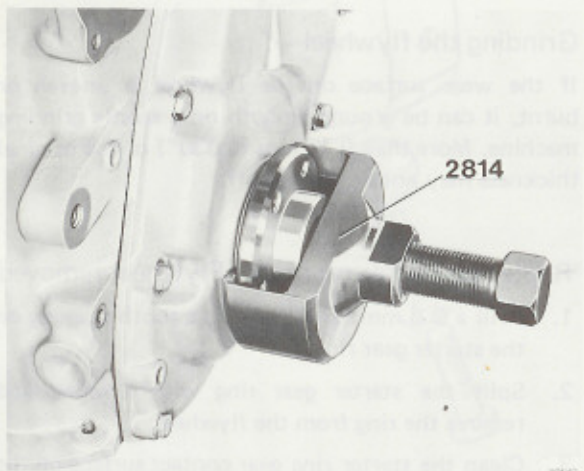

Fig. 21-50. Removing the polygon hub
4. Screw out the centre bolt and pull off the polygon hub with puller 2814, Fig. 21-50. (But first try to see that the hub can be pulled off by hand.)